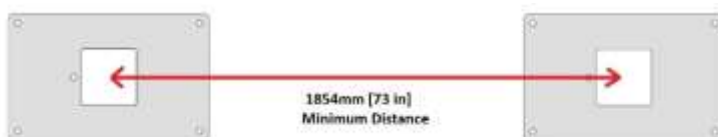

Figure 6—Minimum space between pedestal baseplate is 73 inches (1854 mm)
- b. If laying out placement using a pedestal baseplate template, have center of two baseplates be at least 1854 mm (73 in.) apart (Figure 6) and then mark the ground.